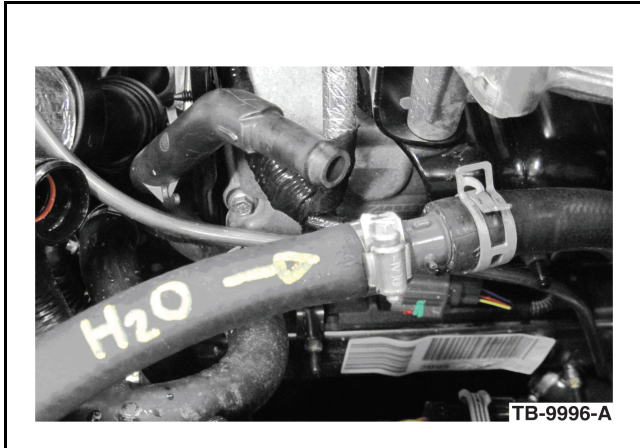

Figure 6 - Article 10-7-5
8. Connect the fabricated fresh water supply hose to the heater return hose. (Figure 6)